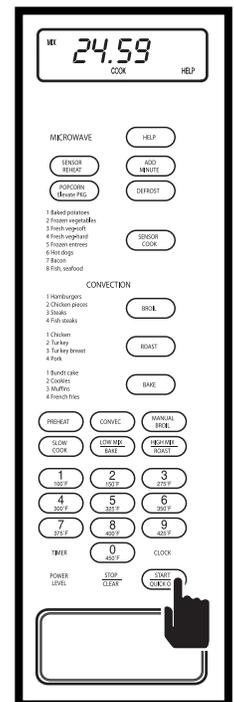

Figure 3-105.
3. Press QUICK ON/START key (See Figure 3-105).